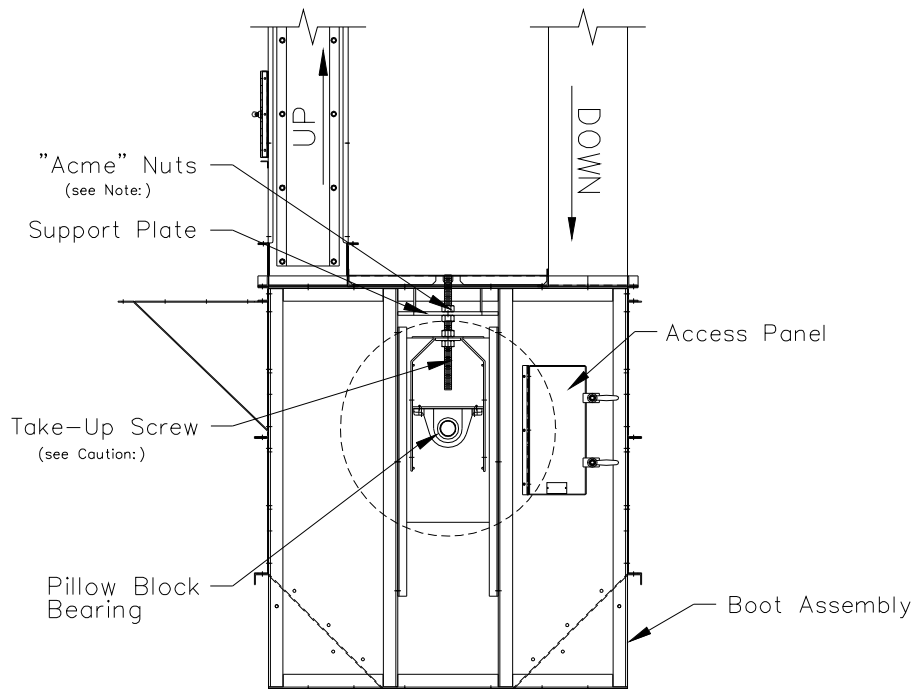
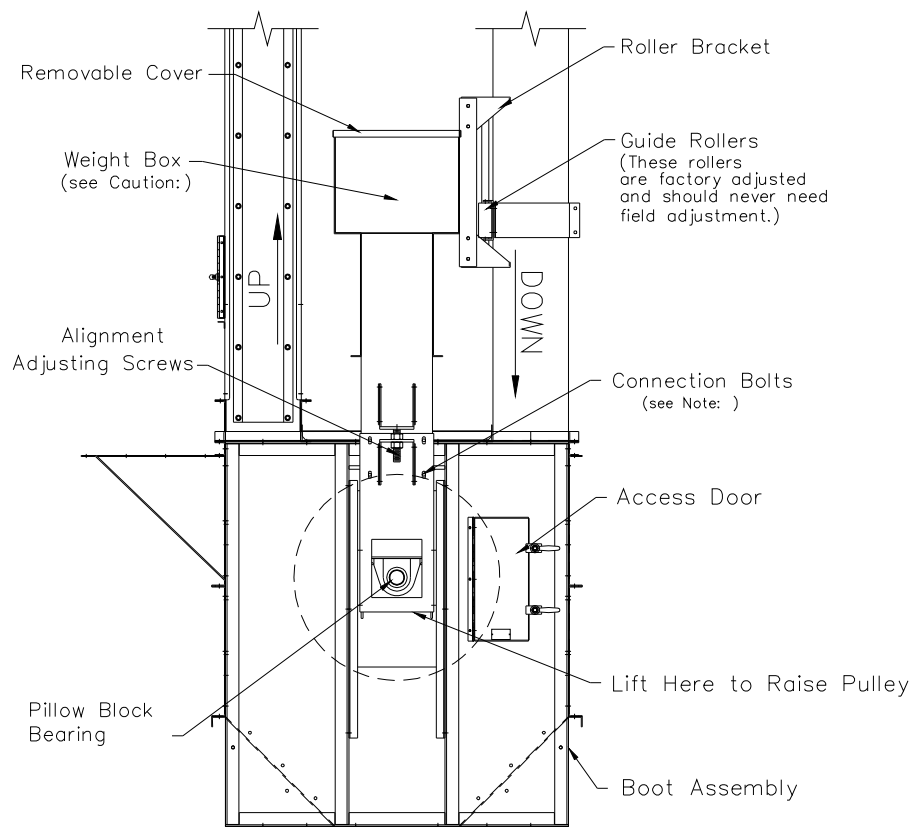

Figure 2-11, Screw Takeup Section
Figure 2-12, Posi-Guide Gravity Takeup
- A. If the elevator boot includes a manual screw takeup as shown in **Figure 2-11**, adjust the takeup screws to raise the pulley to its highest level
- B. If the elevator includes a Posi-Guide gravity takeup as shown in **Figure 2-12**, position a jack under the indicated surface of the takeup side post to lift the takeup, including the pulley.
3. Mechanical Splice, **Figure 2-10, View C**. This is a superior splice. It makes for the smoothest running belt. However, it is also the most difficult splice to make properly. Vulcanized and cemented splices do not often find application in elevators. The splices are difficult to apply in the field. Also, the belt may have to be respliced after a short period of operation to compensate for initial stretch. Regardless of the method used to splice the belt, a set of spreader bars and a Cable Hoist as shown in **Figure 2-11, View D** will facilitate splicing.
1. If the elevator has a screw takeup, **Figure 2-11**, adjust the screws evenly downward at both ends of the takeup pulley shaft. Continue adjusting the screws until the belt can be seen to wrap snugly around the takeup pulley.
2. If the elevator has a Posi-Guide Takeup, **Figure 2-12**, then simply remove the temporary support so the weight of the takeup is exerted on the takeup pulley. If the loaded elevator, when tested, is found to need more belt tension, that can be accomplished by adding ballast to the weight box.
- B. Establish a firm, level, horizontal reference plane common to both ends of the takeup or boot pulley shaft. Measure from the reference plane to the pillow block mounting surface at each end of the pulley shaft. If the distances are not equal, adjust the takeup screws, **Figure 2-11**, or the alignment adjusting screws, **Figure 2-12** until the pulley shaft is level.
2. If the elevator has a Posi-Guide gravity takeup, adding sand to the weight box will increase belt tension. The sand should be spread evenly throughout the box for best results. Be sure to reinstall the weight box cover to prevent rainwater from accumulating in the weight box. (See **Figure 2-12**)